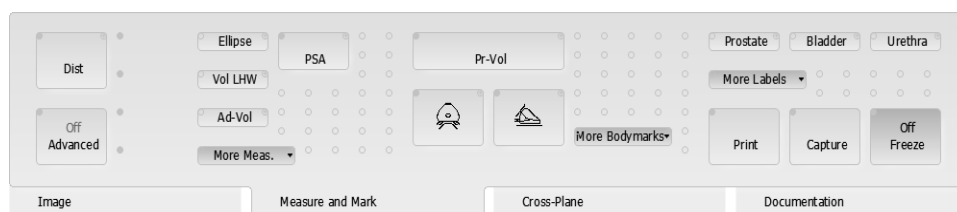

Figure E-1. Grid and key-editing circles visible in Configuration Mode.
- 1 On the key, click the small circle in the top left corner (see Fig E-1.)
Two versions of the **Measure and Mark** tabs are available in Configuration mode (see Fig E-1). As with the **3D Mode** tab, one version of the **Measure and Mark** tabs is divided into subtabs and the other version is not.